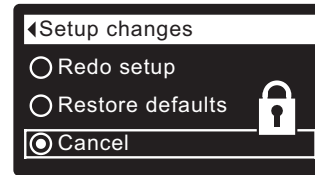

FIG. 39
8. Press the RIGHT (▶) button. A flashing padlock icon will appear, as shown in Figure 39.
- 1-7. Go to the **Setup changes** screen (Figure 39) by following Steps 1-7 at left.